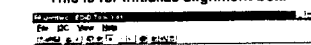

Fig. 6
4. Click OK button. The main menu appears (as shown in Fig. 6). This is for initialize alignment box.